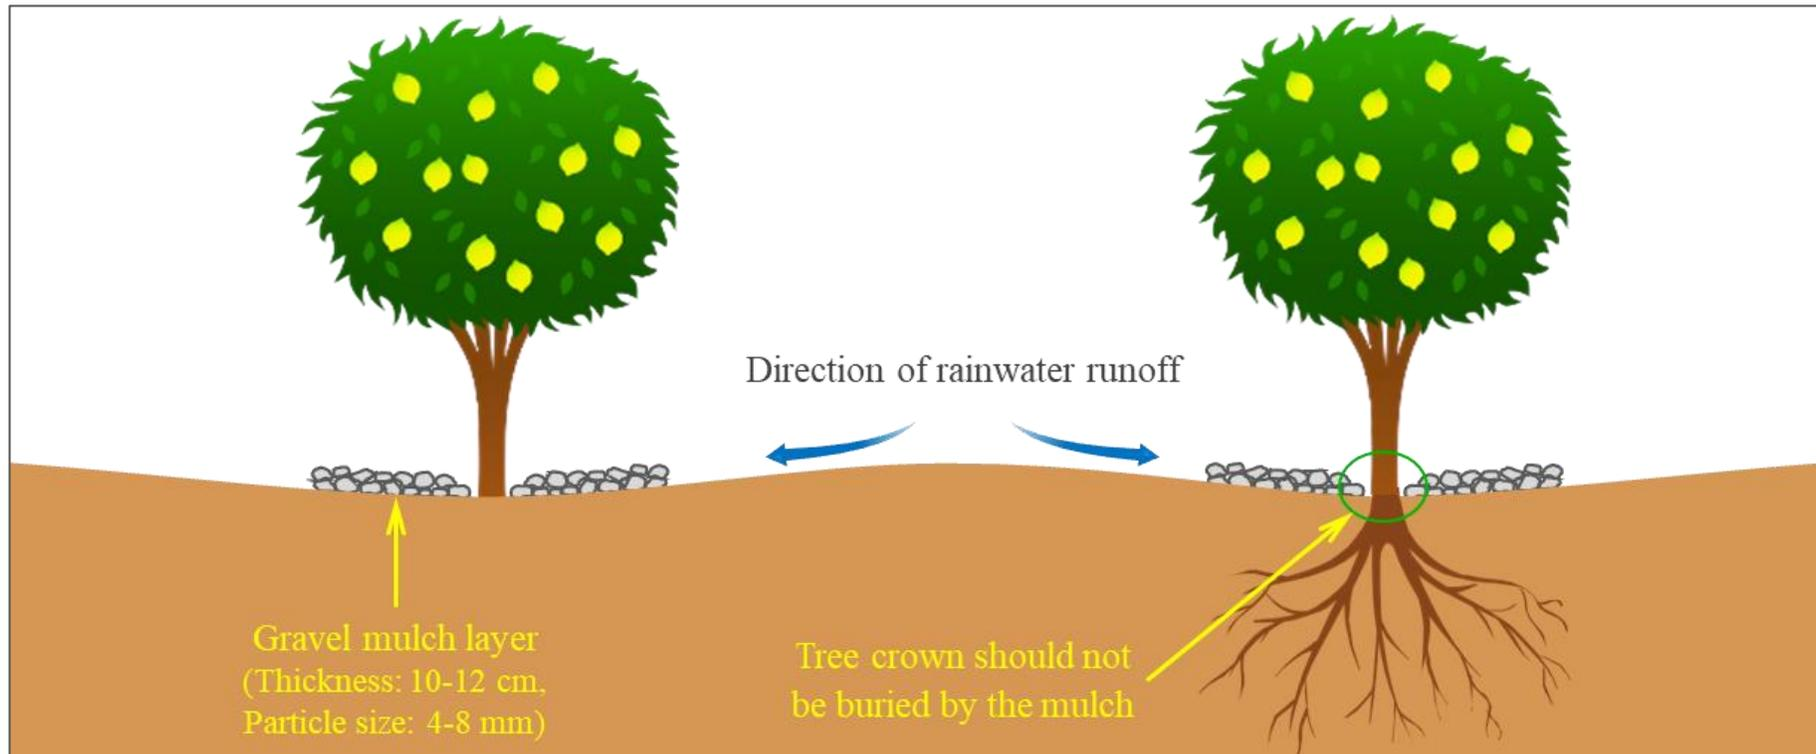

Figure 2. Placement of gravel mulch around the tree, and shaping the orchard floor.
- The tree crown must be free and not buried under the mulch (Figure 2).